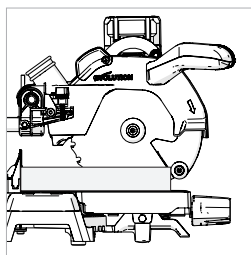

Fig. 40
- Always push the cutting head to the full rear position during each cut. (**Fig. 40**)